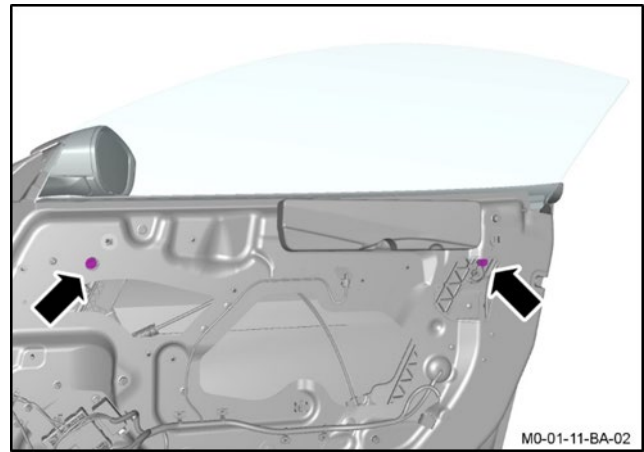

Figure 24
39. Lower the door glass so that the bolts for the door glass can be accessed (refer to Figure 24).